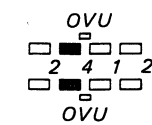

Fig. 1
3. Set RV106 and RV206 MIN and adjust RV107 and RV207 so that LOW segment lights-up dimly as shown in Fig. 1.